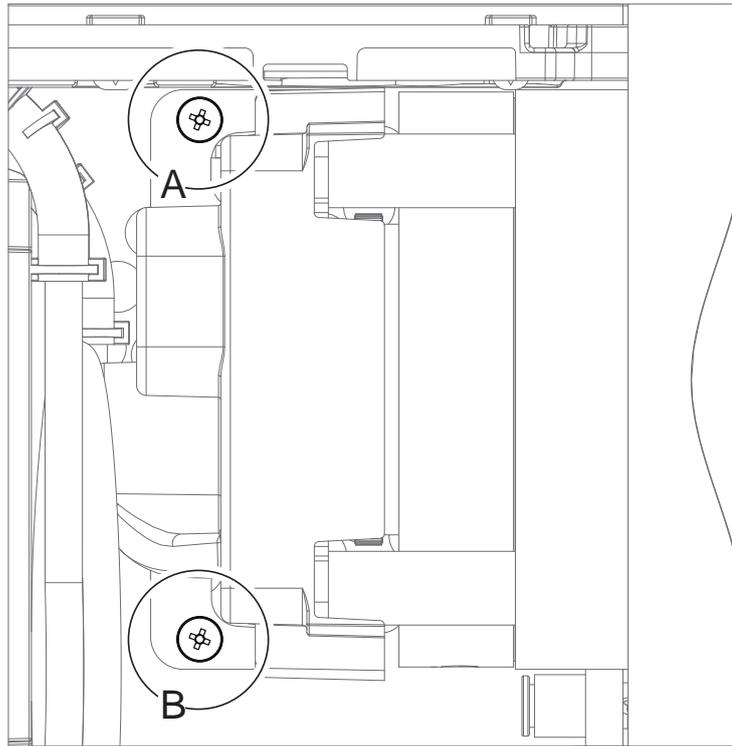
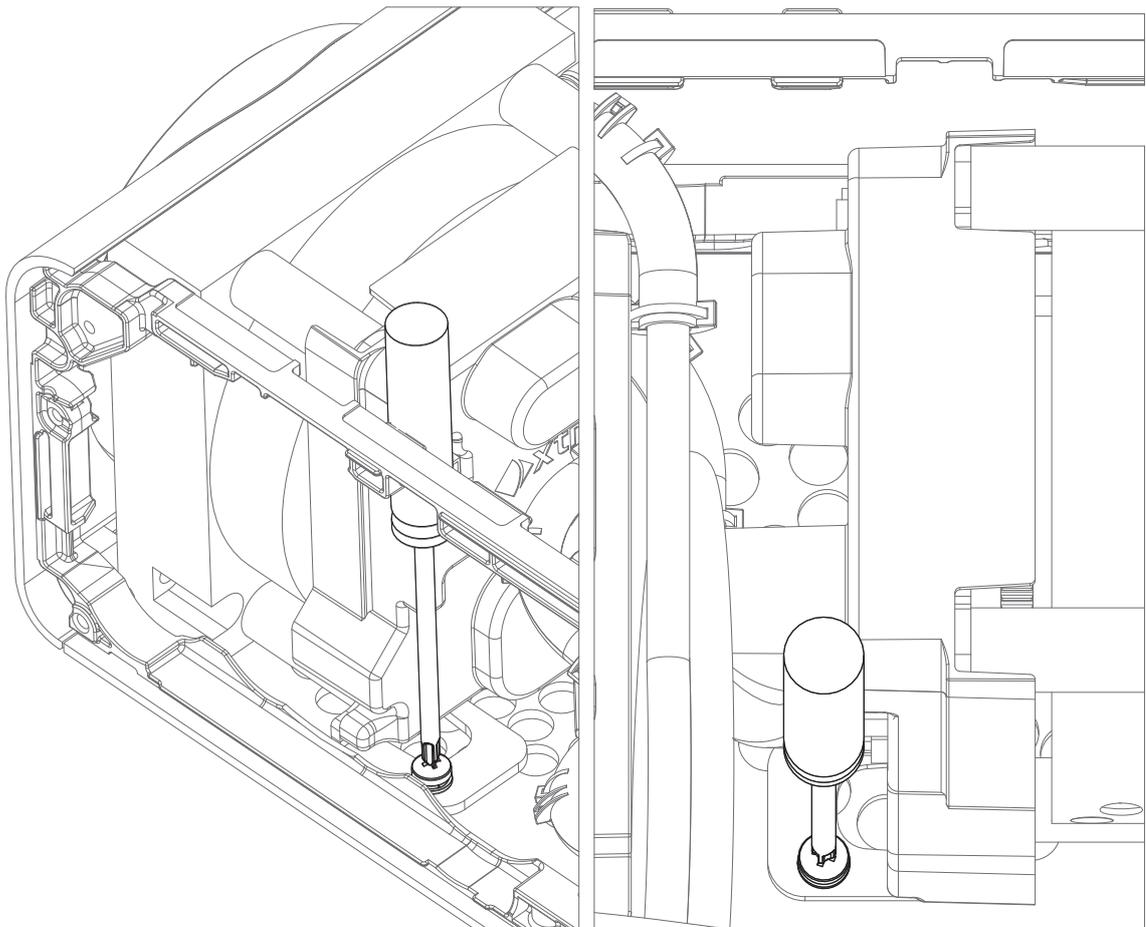

Figure 7-21: Remove rotary valve retaining screws
Figure 7-22: Remove rotary valve retaining screws
- Remove the two screws (A and B) securing the Rotary Valve to the baseplate (Figure 7-21, Figure 7-22).